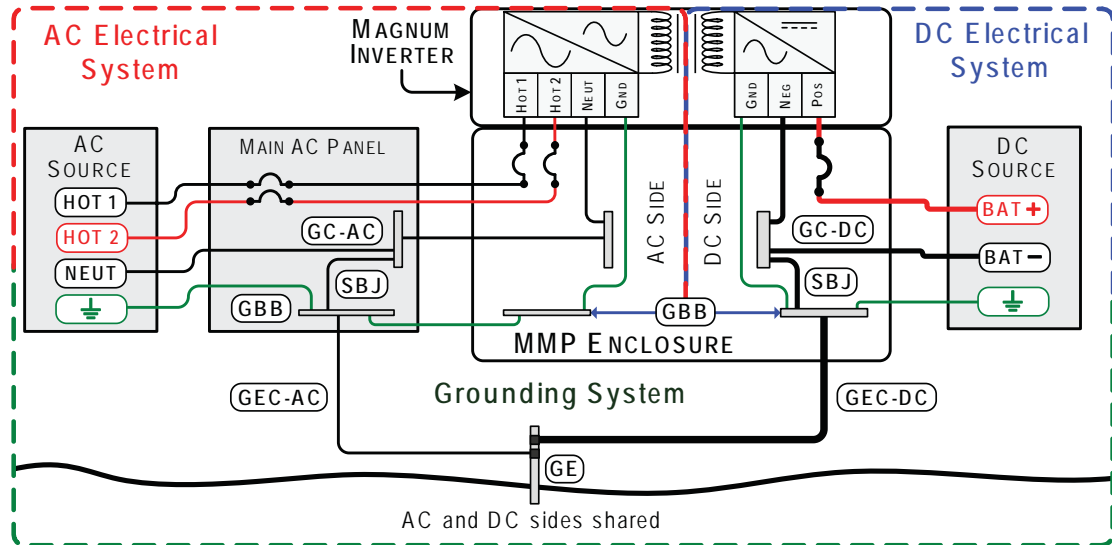

Figure 3-20, Multiple Connections to DC Ground Rod (Method 2)
2. **Multiple Connections to Ground - Single Electrode (Method 2):** When the AC and DC service panels are near each other, then the AC Grounding Electrode Conductor (GEC – AC) and DC Grounding Electrode Conductor (GEC – DC) can be connected to a single Grounding Electrode (see Figure 3-20). In this method - since there are multiple connections to the DC Grounding Electrode (GEC – DC) - the size of the DC grounding electrode conductor cannot be smaller than the largest conductor in the DC system (usually the battery-to-inverter cable).